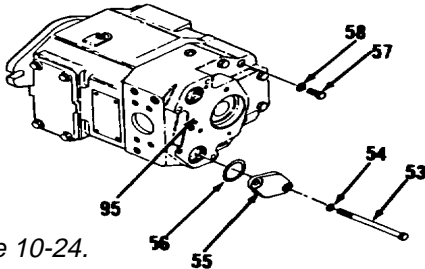

Figure 10-24.
- 19. Remove two bolts (53), lockwashers (54), cover (55) and preformed packing (56, Figure 10-24). Discard preformed packing (56).
- 20. Remove bolt (57) and lockwasher (58) from head (95).